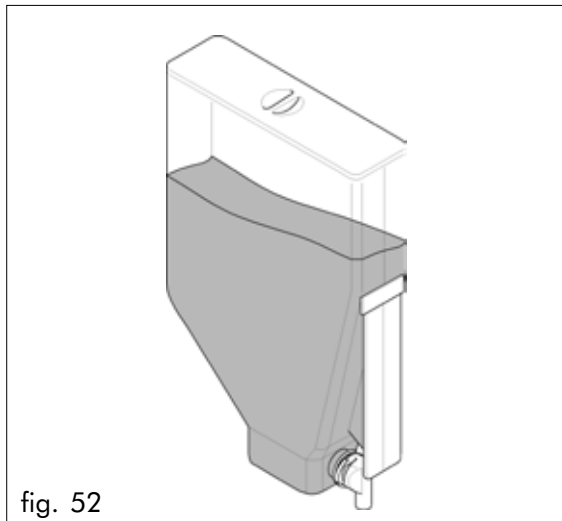

fig. 52
- Check out for clots; avoid pressing the product or using excessive quantity, to avert ageing. We suggest filling the containers with the quantity of product needed for the consumption estimated within two subsequent loadings (fig.52)